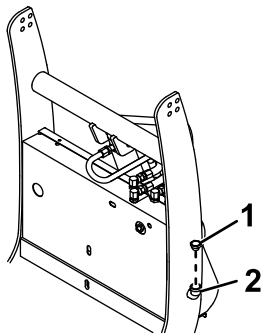

Figure 41
2. Clean the area around the fill cap (Figure 41).